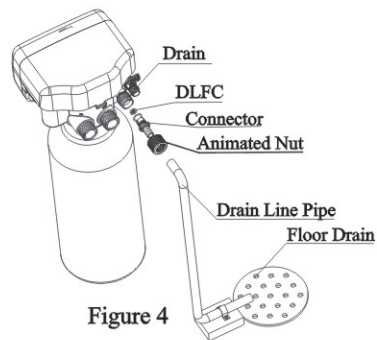

Figure 4
④ Install drain pipeline
a. As the Figure 4 shows, Insert drain line flow control into drain outlet.
e. Locate the drain hose well as the Figure4 show.
● Be sure not connect drain with sewer, and leave a certain space between them, avoid wastewater be absorbing to the water treatment equipment, such as showed in the Figure4.